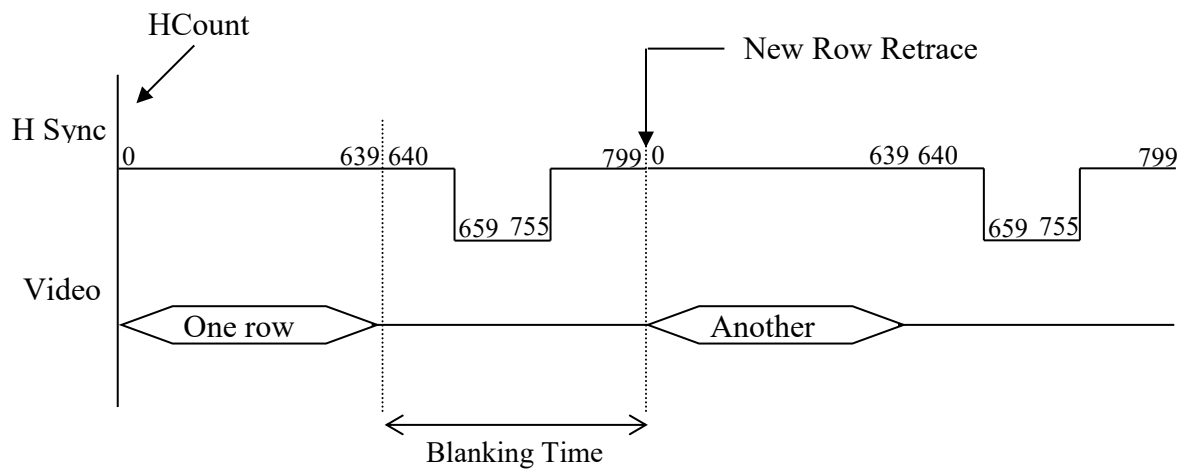
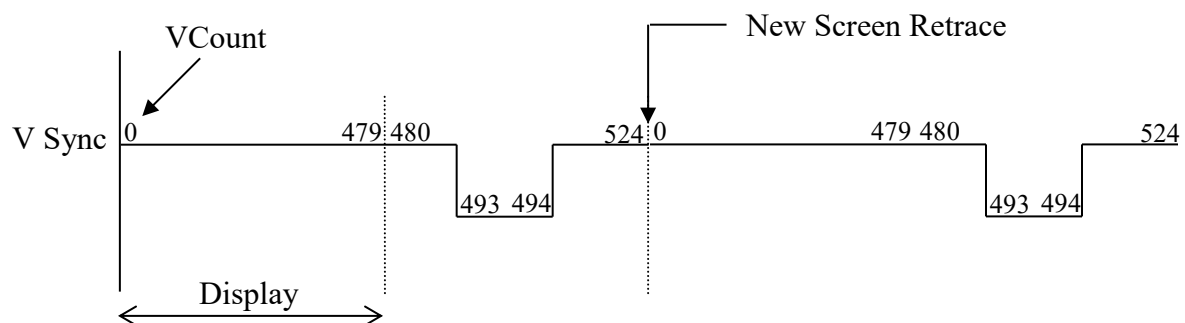

Figure 3. Horizontal Sync Timing
Figure 4. Vertical Sync Timing
Figure 3 shows the timing of the *hsync* signal. It is made low starting on the 659th pixel clock period for the row and made high again on the 756th pixel clock period. During the first 640 pixel clock periods, visible pixels are generated. During the last 160 pixel clock periods, nothing is generated on the screen.
Figure 4 shows the relationship between the *vsync* signal and the *hsync* signal. The digits represent the line count. As stated earlier, the first 480 lines are displayed while the last 45 lines correspond to the retrace period for the beam to get back to the top left corner of the screen.
- Generate the hsync signal based on the value of hcount as illustrated in Fig. 3. vsync is generated in a similar fashion as illustrated in Fig. 4.